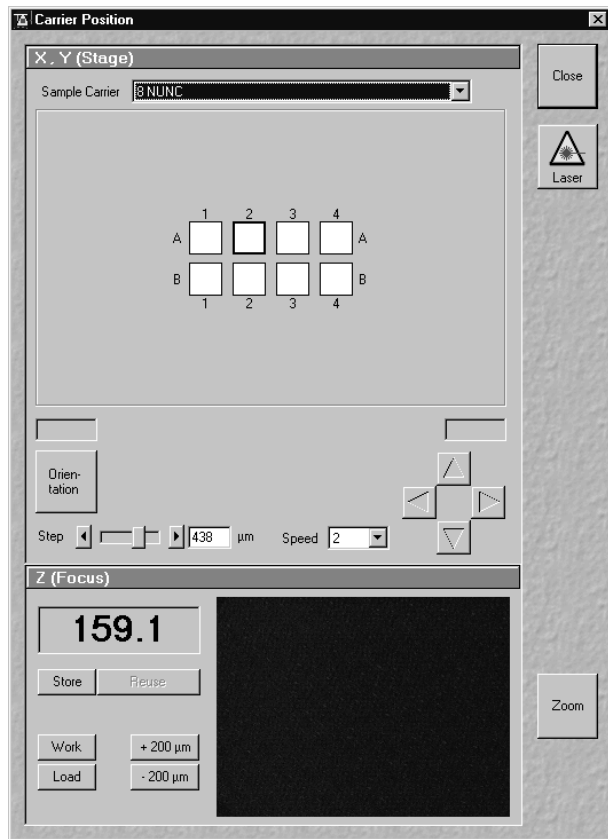

Fig. 3-31 Carrier Position window
- The sample select window (**Carrier Position** window) pops up (Fig. 3-31).